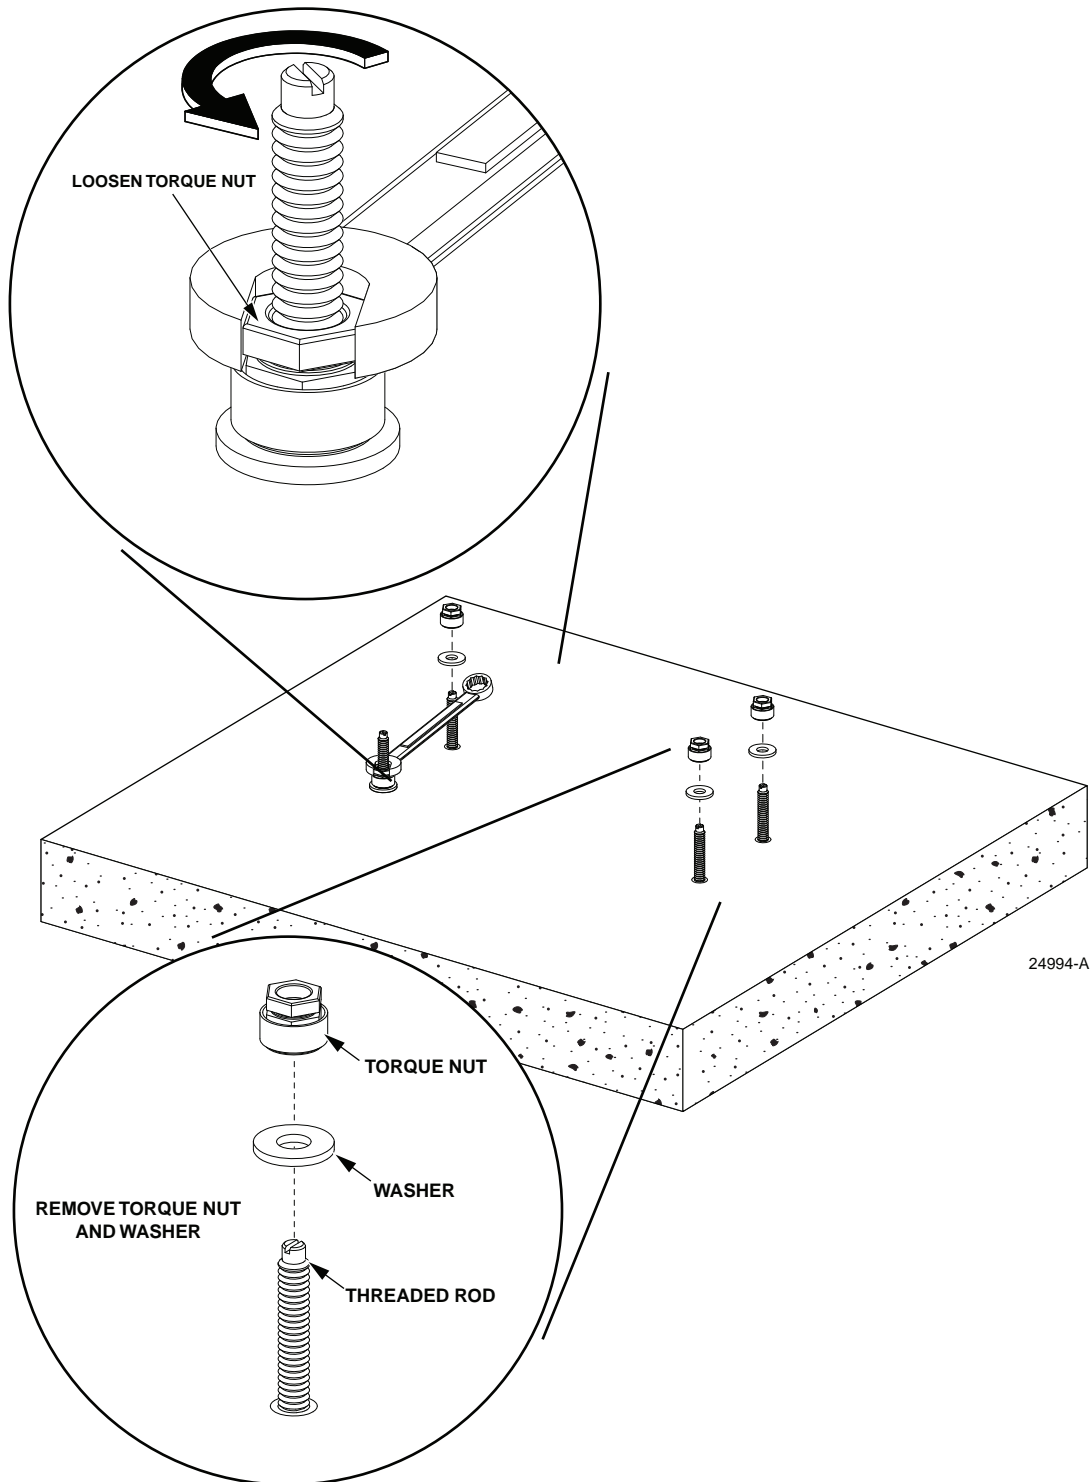

Figure 11. Removing Torque Nut and Washer
6. Loosen the torque nuts several turns, and then remove the torque nut and washer, as shown in Figure 11.